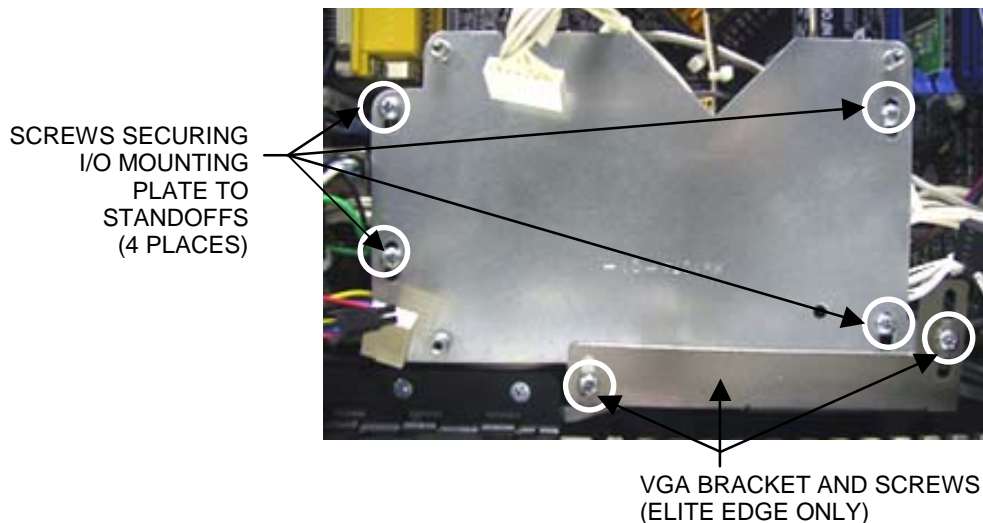

FIGURE 2 - I/O MOUNTING PLATE
4. Remove the 2 screws securing the VGA monitor cable's bracket, then remove the bracket (Elite Edge games only). Remove the 4 screws securing the I/O mounting plate, then remove the plate. See Figure 2.
3. Secure the I/O mounting plate to the standoffs with 4 mounting screws. Secure the VGA bracket to the I/O mounting plate with 2 screws (Elite Edge games only). See Figure 2.